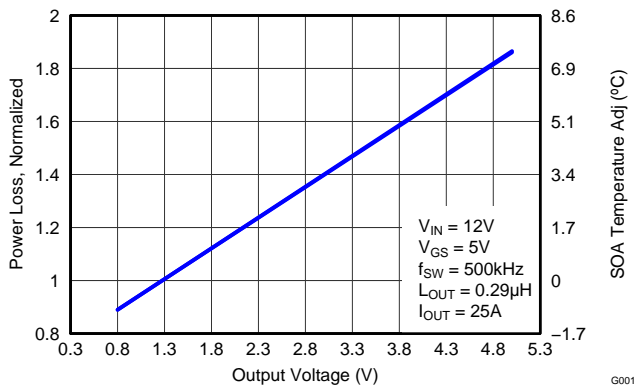

Figure 7. Normalized Power Loss vs. Output Voltage
- Normalized Power Loss for output voltage ≈ 0.94 (Figure 7)
- SOA adjustment for output voltage $\approx -0.5^\circ\text{C}$ (Figure 7)